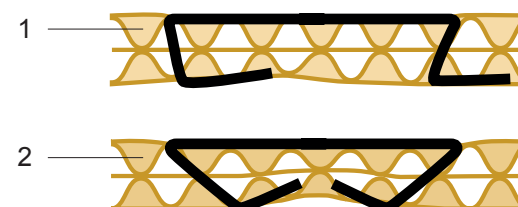

Fig. 9
Each plier is tested carefully before delivery. By rough treatment during operation the anvil therefore might need to be adjusted. Uncorrect clinching may then occur (Fig. 9/1).
- Make a test-stapling in a piece of carton. If the anvil is correct adjusted the clinch should be like in (Fig. 9/2).